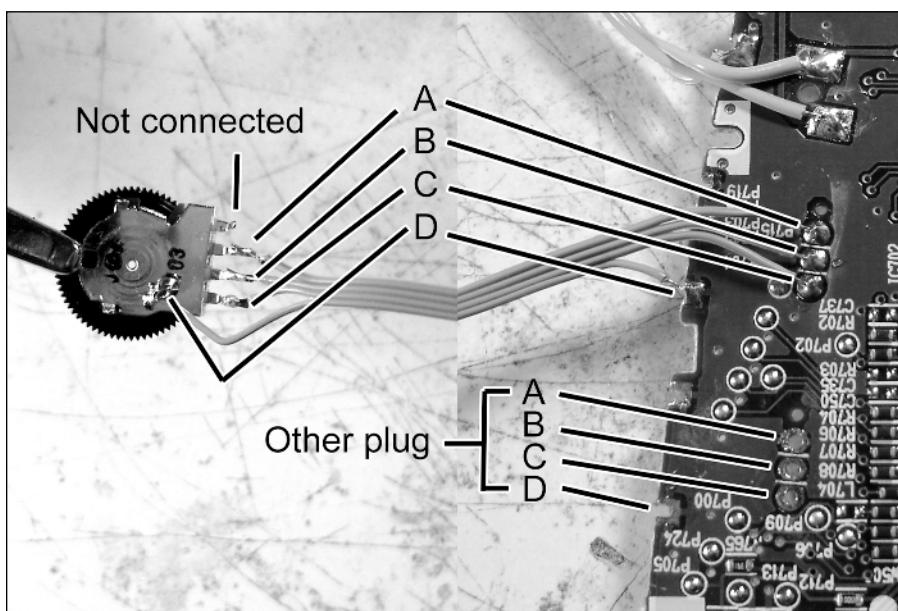

FIGURE 4-15: Reconnecting a knob. Bend out the pins on the knob as shown, using your tweezers for best results.
5. Cut a four-strand of thin cable 11" long. (Ultra ATA or thin ribbon cable works best for this.) Connect it to the board and the knob as shown in Figure 4-15. (You'll notice that not all of the pins are reconnected — this is fine.) You may also want to push the wires through the holes from the other side of the board. I usually do it that way but displayed it as shown for clarity.